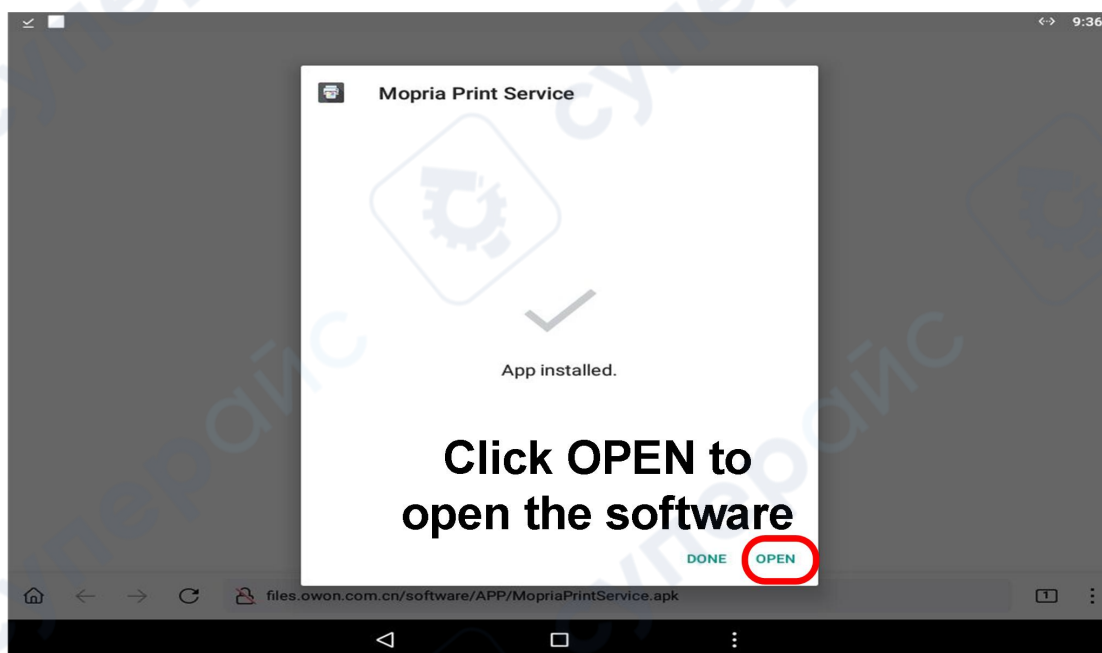

Figure 5
⑤ After install success, click **OPEN** can open print app. As shown in Figure 5.